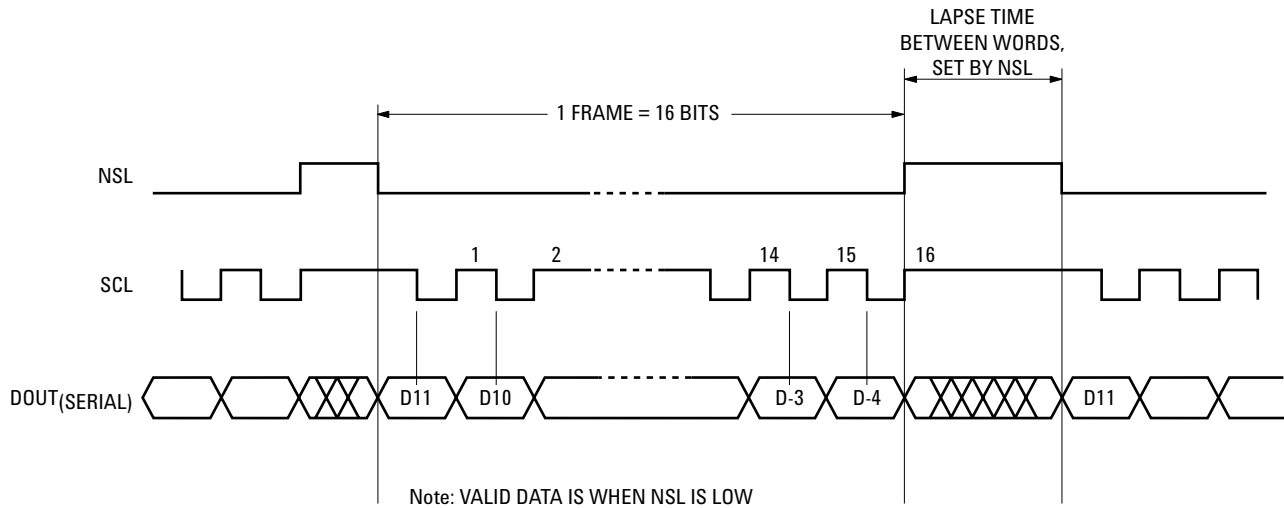

Figure 3. Timing Diagram
Valid data of DOUT should be read when the SCL clock is low. Please refer to timing diagram (Figure 3).
1. After powering up the unit using $V_D = +5\text{ V}$ and connecting GND to ground, trigger input pins NSL and SCL using the timing diagram (Figure 3). NSL is a control pin for the internal shift register. NSL=1 is load mode while NSL=0 is shift mode for the shift register. When NSL=0 and combined with clock pulses, the serial Gray code will be shifted out to DOUT bit by bit per every clock pulse. Valid data of DOUT should be sampled at the falling edges of the clock pulses.